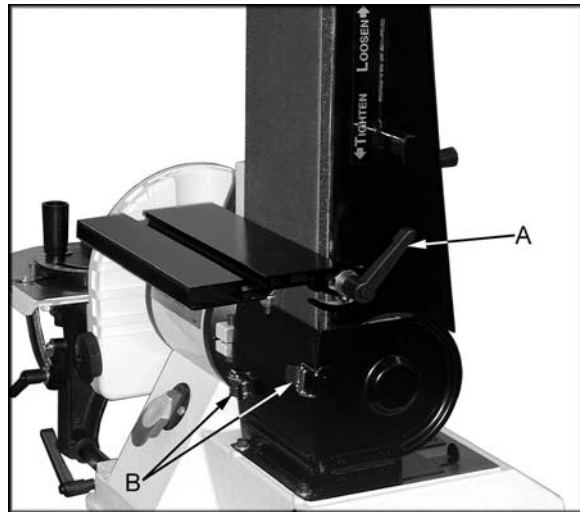

Figure 8
2. Remove the handle (A, Fig. 8).
3. Release two latches (B, Fig. 8) and open the doors.